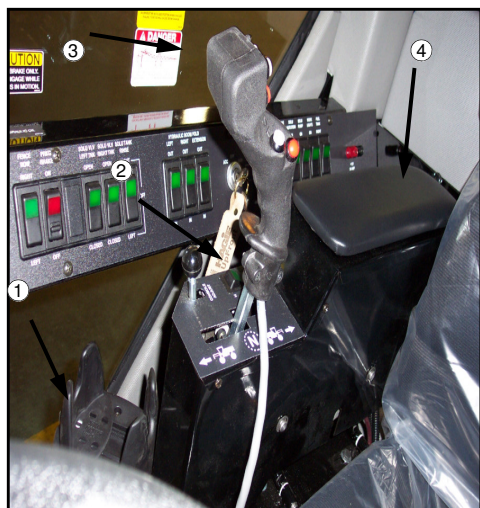

FIG 5.88
The seat-mounted console/armrest houses the hydrostatic drive control lever (with boom lift and level controls and foam system operation switch) (fig. 5.88, item 3), speed switch (fig. 5.88, item 2), operating panel for the hydraulic tread adjust (fig. 5.88, item 4), small storage tray (fig. 5.88, item 4), and adjustable drink holder (fig. 5.88, item 1).